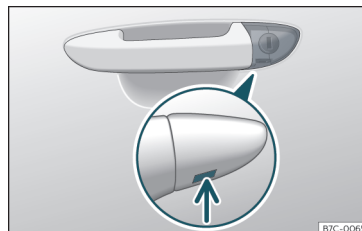

Fig. 3 Driver door lever: hidden lock cylinder.
- Insert the key shaft into the lower opening in the cover on the driver door handle >>> Fig. 3 (arrow) then remove the cover upwards.